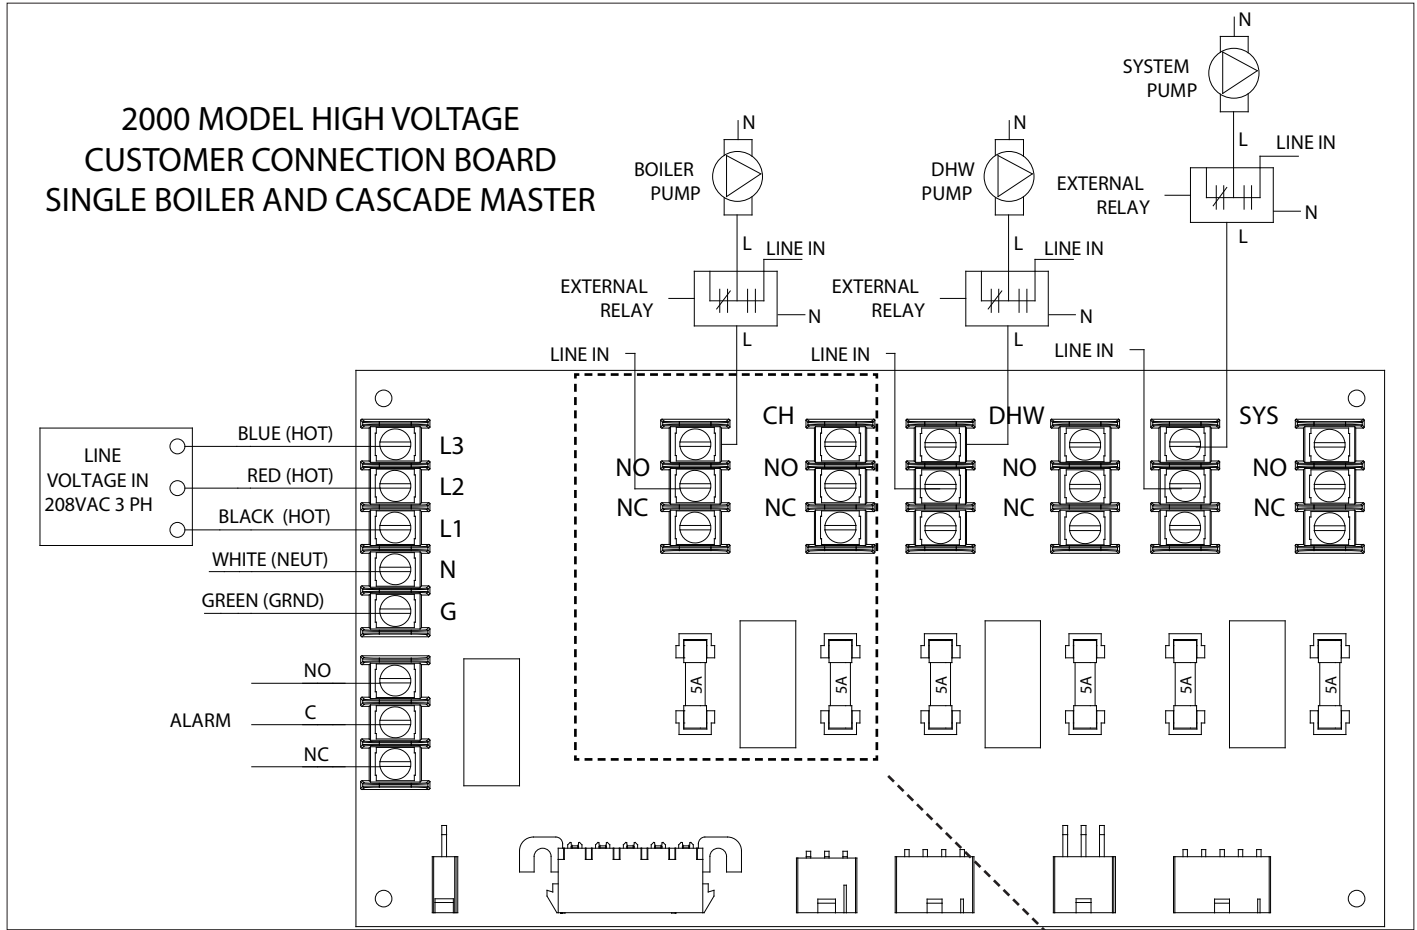

Figure 36 - Cascade Master and Single Boiler High Voltage Wiring - 2000 Model
1. A Cascade Bus Termination Plug has been installed on the customer connection board of this boiler. The purpose of this plug is to stabilize communication between multiple boilers and reduce electrical "noise". See Figure 36 for Cascade Bus Termination Plug installation detail.
**NOTE:** It is important that the termination plug in multiple boilers (cascaded units) be installed as depicted in Figure 36. Leave the plug installed in the J6 port on the Master boiler. Remove the plug on intermediate Follower boilers. Move the plug to the J7 port on the final Follower boiler.
**NOTE:** All termination plugs must be installed as described in Figure 36 to ensure proper cascade operation.